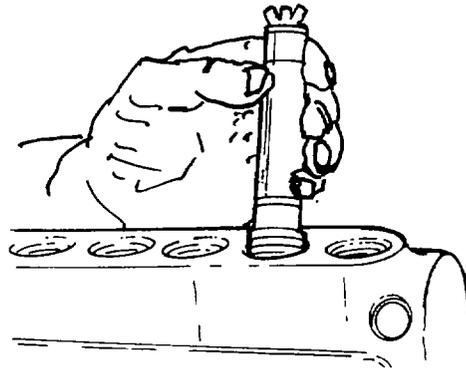

Fig. 102 — Installing Delivery Valve
- r. Assemble the O-rings (item 62) to the delivery valve assemblies (item 63), then apply a film of grease to the O-ring.
- s. Insert the delivery valve bodies (part of item 63) using service tool TSE 76242 as shown in fig. 102.